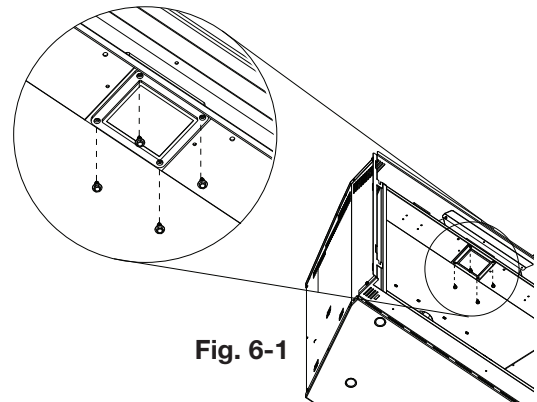

Fig. 6-1
- C.** Remove the 4 screws securing the lens frame (**Fig. 6-1**). This frame retains the glass lens. The lamp can now be accessed.